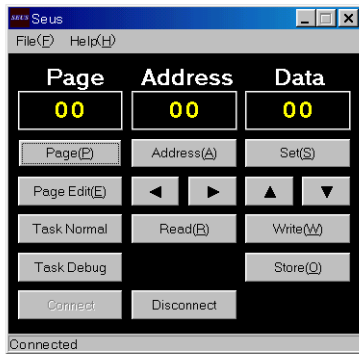

Fig. 6-2-1
- 6) Click [Connect] on the SEUS screen. If the connection is normal, the SEUS screen will be as shown in Fig. 6-2-1, indicating the "connected" state.